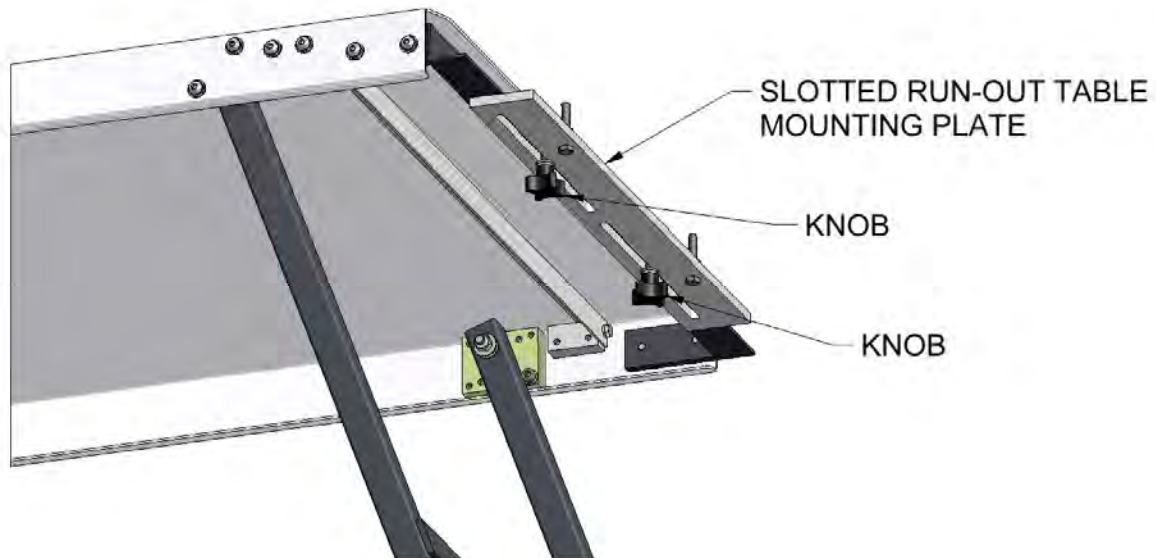

Fig. 4-3. Left/Right Run Out Table Adjustment
1. If necessary, adjust the slotted mounting plates to position the Run Out Tables where they will best be able to support the panel being slit. Loosen the knobs, slide the plate to its new position, and tighten the knobs back down again, see **Fig. 4-3**.